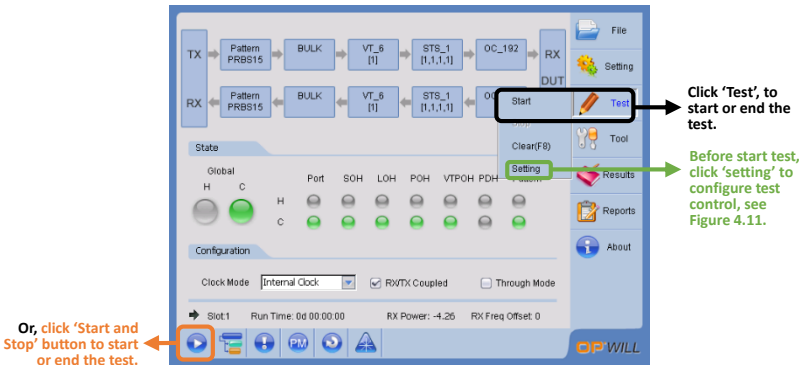

Figure 4.1.10 Start the test
- Or, Click 'Start and Stop' button to start or end the test, see Figure 4.1.10;